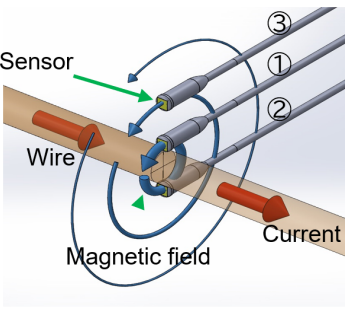
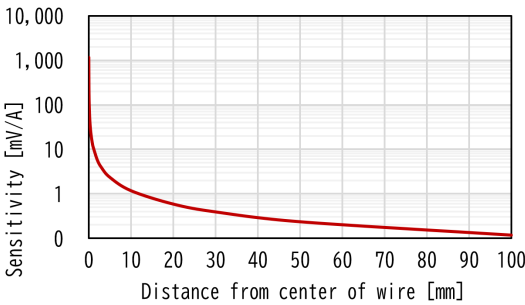

Fig. 5. Position between wire and sensor
Fig. 6. distance from center of wire and sensitivity
(1) Positional relation between wire and sensor
Maximum sensitivity is obtained when the sensor part contacts the center of the wire, as shown in Figure 5, ①. When placed as in ①, a positive output is obtained in relation to the direction of the current flowing through the wire, and when placed as in ②, an inverted output is obtained. When the wire is placed far from the center of the wire as in ③, the magnetic field weakens, and the sensitivity changes as shown in the graph in Fig. 6. Therefore, by maintaining an appropriate distance, it is possible to measure a current greater than the measurable current. Also, if the distance between the center of the wire and the sensor remains constant, the sensitivity will not change even if the diameter of the wire is changed, as shown in Figure 7.